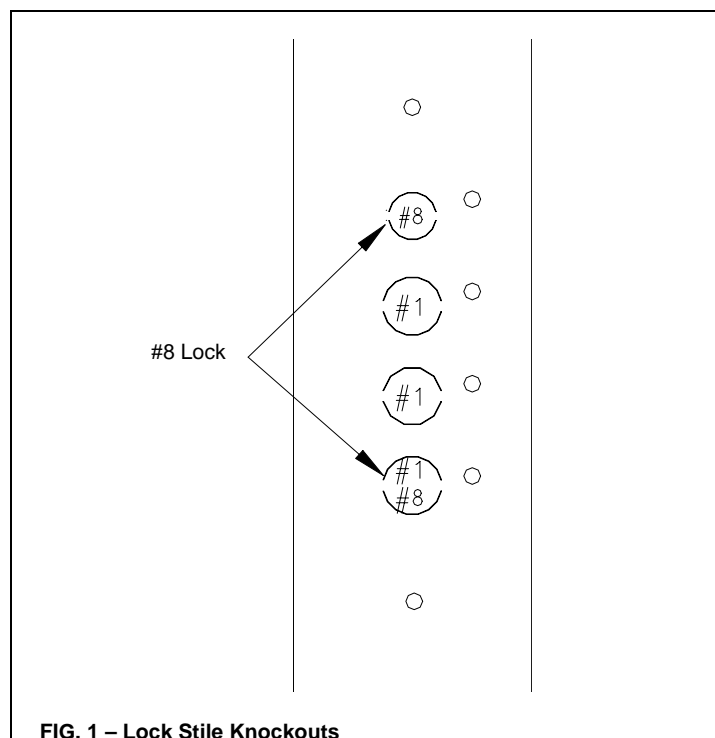

FIG. 1 – Lock Stile Knockouts
**Step L1:** Locate the stile with the numbered knockout tabs. This is the lock stile. Use a flat head screw driver and a hammer to strike the appropriate tabs for the lock included with your door (FIG. 1).
**Step L8:** Once the door is completely assembled, slide an equal number of lock bar guides on each lock bar and line up each bar with the slot in the vertical track. Attach one lock bar guide to each end stile using (2) #14 x 5/8" sheet metal screws. If your door is over 10 feet wide, space the other two lock bar guides equally over the other center stiles and attach each with (2) #14 x 5/8" sheet metal screws.
**Step L9:** Attach the left-hand lock bar to the horizontal bar of the lock box. Make sure that the lock bar is on top of the horizontal bar. Attach using the shoulder bolt being inserted in from the backside (FIG 1).